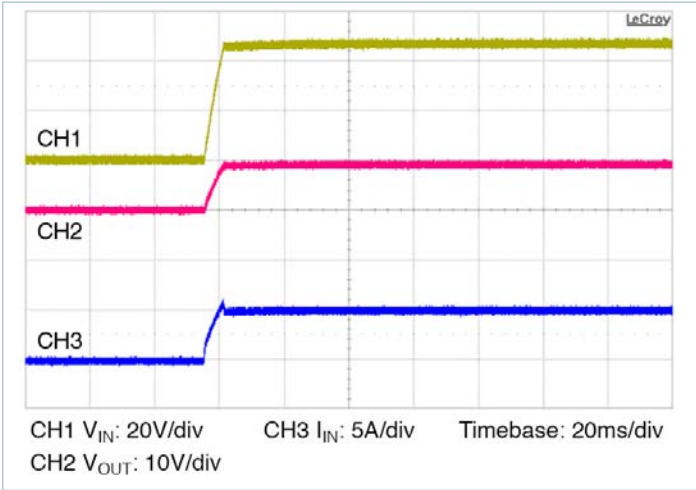

Figure 13 — Start up from application of  $V_{IN}$ ;  $V_C$  pre-applied  $C_{OUT} = 1600\mu F$
- Normal operation (VC applied prior to VIN): In this case the controller is active prior to ramping the input. When the input voltage is applied, the VTM module output voltage will track the input (See Figure 13). The inrush current is determined by the input voltage rate of rise and output capacitance. If the VC voltage is removed prior to the input reaching 26V, the VTM may shut down.